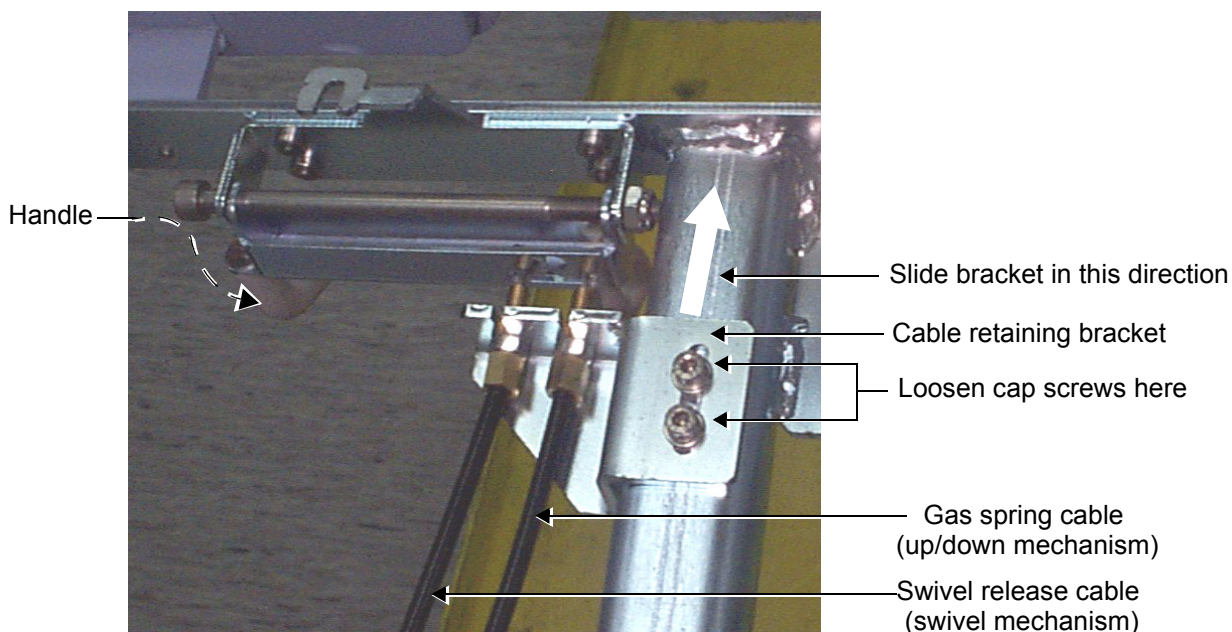

Figure 8-85 Gas Spring Cables and Retaining Bracket
- 9) Working from the *front* of the unit, and using an M4 Allen key, loosen the two cap screws on the swivel release cable retaining bracket and slide the bracket *forwards* sufficiently to allow removal of the cable from the up/down/swivel handle, as shown in Figure 8-85 below.
- 6) Using an M4 Allen key, loosen the two cap screws on the cable retaining bracket and slide the bracket *forwards* sufficiently to release tension on the cables, as shown in Figure 8-85.
- 8.) Slide the cable retaining bracket *backwards* (previously moved forwards) along the chassis beam sufficiently to regain tension on the cables. Using an M4 Allen key, tighten the two cap screws on the bracket to hold it firmly in position - refer to Figure 8-85 on page 8-99.